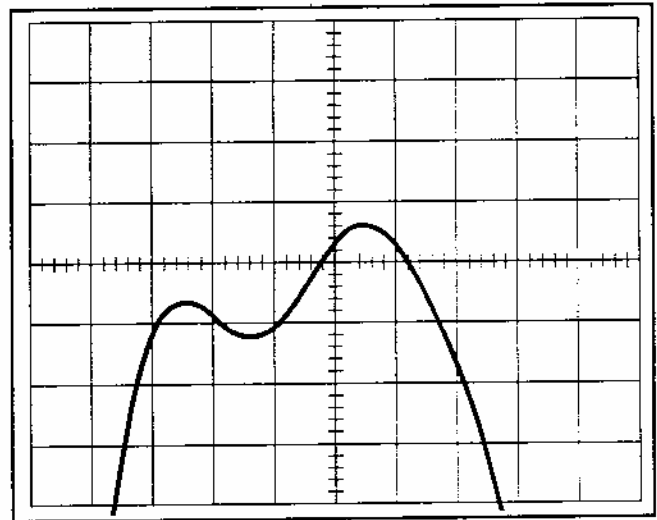

Figure 5 - R122 & R123 Adjustment
3. Reset the oscillator frequency to 3220Hz, 'scope timebase to 20 μ s/div. Adjust trimpots R122 and R123 so that the left-most peak is the same distance *below* the centerline as the right-most peak is *above* it, as shown in Figure 5.